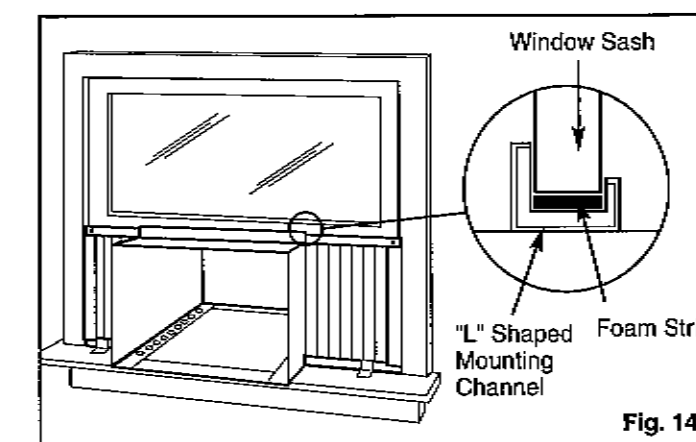

Fig. 14
- Place the air conditioner cabinet into the window with the "L" shaped mounting channel (on top) positioned in front of the upper window sash. The "U" shaped channel on the bottom of the cabinet should be positioned in the "recessed" portion of the track located at the front of the window bracket assemblies. Pull the window down until it rests just behind the front flange of the (top) "L" shaped mounting channel. See Fig. 14.